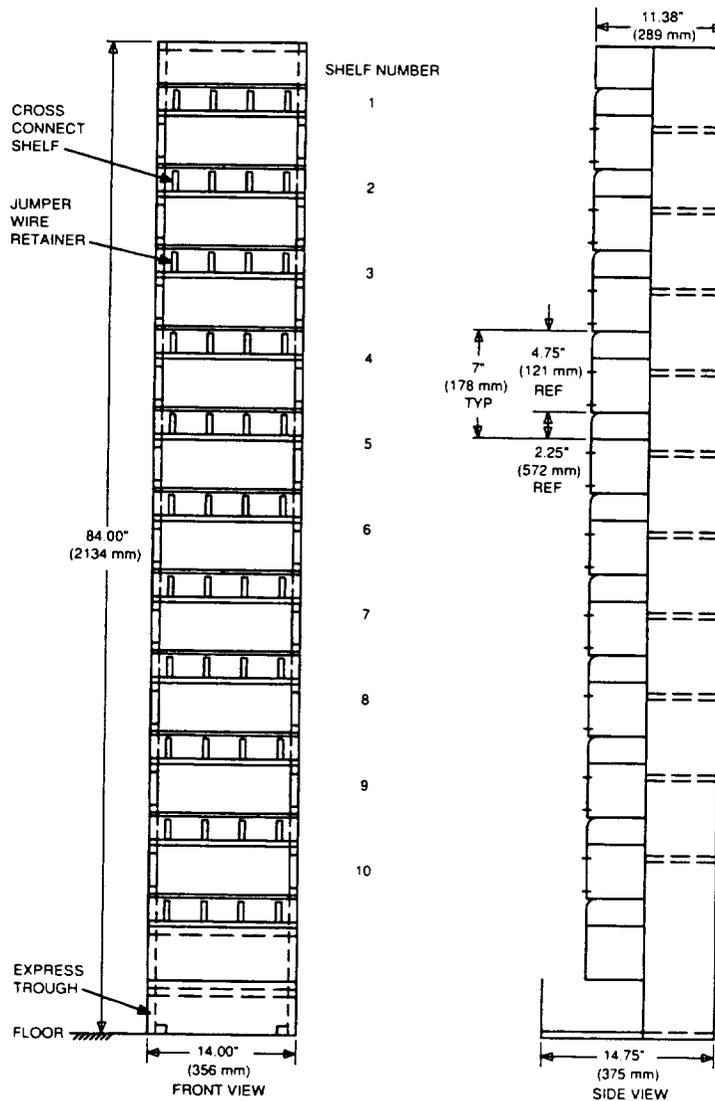

Figure 7. COSMIC Mini DF — Cross-Connect Bay (Upper Express Trough Not Shown)
4.08 The cross-connect bay (Figure 7) has the same dimensions as the cross-connect/protection bay and is used to terminate line, trunk, and toll equipment on 112-type connecting blocks. The cross-connect bays have ten shelves and can mount twenty of the 100- or 128-pair, 112- type connecting blocks (2 per shelf) for a maximum capacity of 2560 equipment pairs.